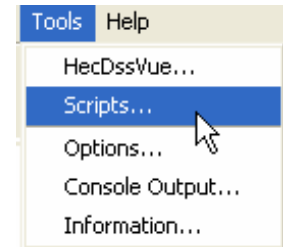

Figure 14.73
1. From the **Tools** menu in any of the three modules (**Watershed Setup**, **Reservoir Network**, or **Simulation**), select **Scripts** (Figure 14.73).